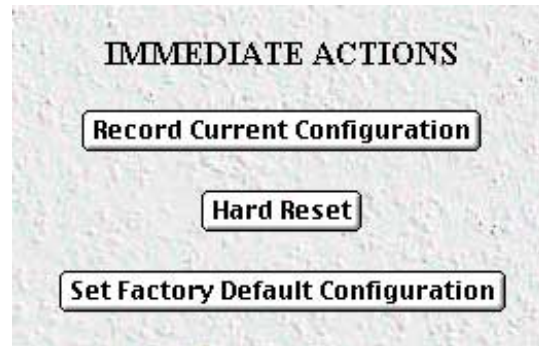

Figure 21. Immediate Actions buttons
- **Record Current Configuration**—clicking on this button (see figure 21) saves the current configuration in volatile DRAM memory to FLASH memory. Once the configuration is saved into FLASH memory, the configuration will not be lost even if the power is cycled on the DACS. Initially, any changes made to the DACS configuration are stored in volatile RAM first, enabling the user to set the box up with a working configuration before committing it to storage in FLASH. The configuration changes become permanent when you select **Record Current Configuration**.
- **Hard Reset**—this button (see figure 21) causes the DACS to perform a cold restart. When you select **Hard Reset**, the DACS confirms that you want to execute this command. Then, the DACS will disconnect all current sessions, re-initialize the interfaces, and re-load configuration parameters from FLASH.
- **Set Factory Default Configuration**—this button (see figure 21) clears out the configuration in FLASH and loads the factory default parameters into FLASH memory. The factory default settings will not execute on the DACS until it is re-booted by doing a Hard Reset.
Note **Set Factory Default Configuration** (figure 21) will delete any routing information, the DACS's Ethernet IP address, and any other site-specific settings made for your particular installation. You will have to re-enter the DACS's Ethernet IP address and netmask using the rear panel control port before using the HTTP/HTML Management pages.
2. Click on the **Record Current Configuration** button (see figure 21 on page 39).